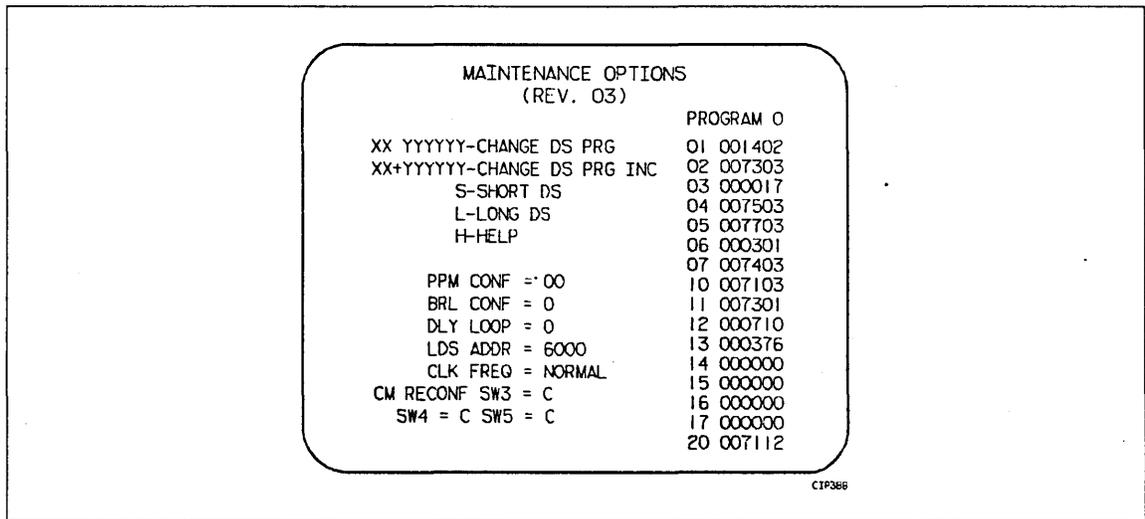

Figure 3-3. Maintenance Options Display
- ___ 2. If your mainframe is a CYBER 810A/830A or a CYBER model 810/830, type M to bring up the MAINTENANCE OPTIONS display shown in figure 3-3.
1. For models 815/825, the MAINTENANCE OPTIONS display shown in figure 3-3 appears.